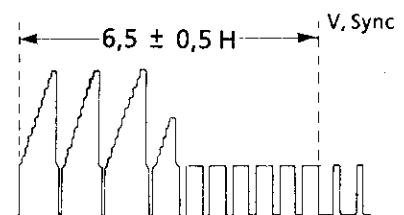

Figure 2-2.
3. Adjust R757 (phase generator MM control) so that the edge of the head switching pulse is 6.5H (Line) ahead of the vertical sync as shown in Figure 2-2.